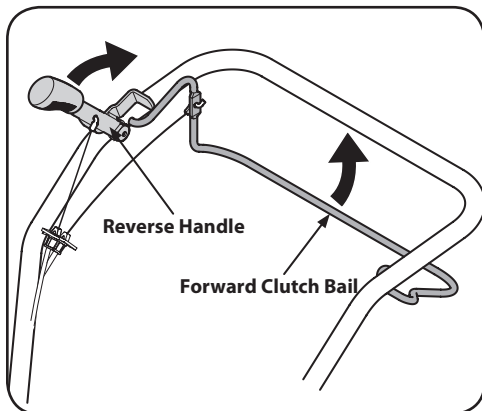

Figure 3-4
- When tilling, relax and let the wheels pull the machine while the tines dig. Walk behind and a little to one side of the tiller. Use one hand, yet keep a light — but secure — grip on the handlebar (while keeping your arm loose). See Figure 3-4. Let the tiller move at its own pace and do not push down on the handlebars to try and force the tines to dig deeper — this takes weight off the wheels and reduces traction.